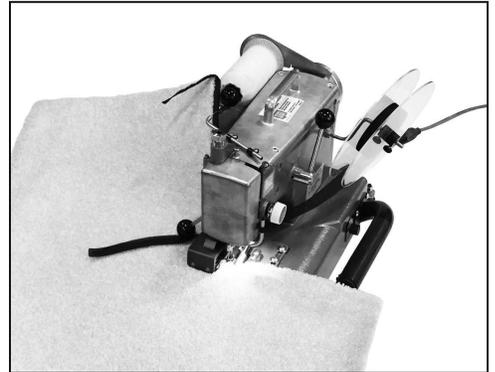

FIG. 28
2. Slide carpet in from back of machine (as close to the corner as the machine will allow) leaving a starting tail and continue sewing. See Figures 28 and 29.